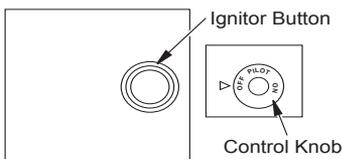

Figure 36 - Control Knob and Ignitor Button Location
After lighting, let pilot flame burn for about one minute. Turn control knob to ON position. Adjust flame adjustment knob anywhere between HI and LO. Slide the selector switch to the REMOTE position (see Figure 36).
5. Wait five (5) minutes to clear out any gas. Then smell for gas, including near the floor. If you smell gas, STOP! Follow "B" in the safety information, column 1. If you don't smell gas, go to the next step.
6. Press in and turn control knob counterclockwise ↻ to the PILOT position. Press in control knob for five (5) seconds (see Figure 36).